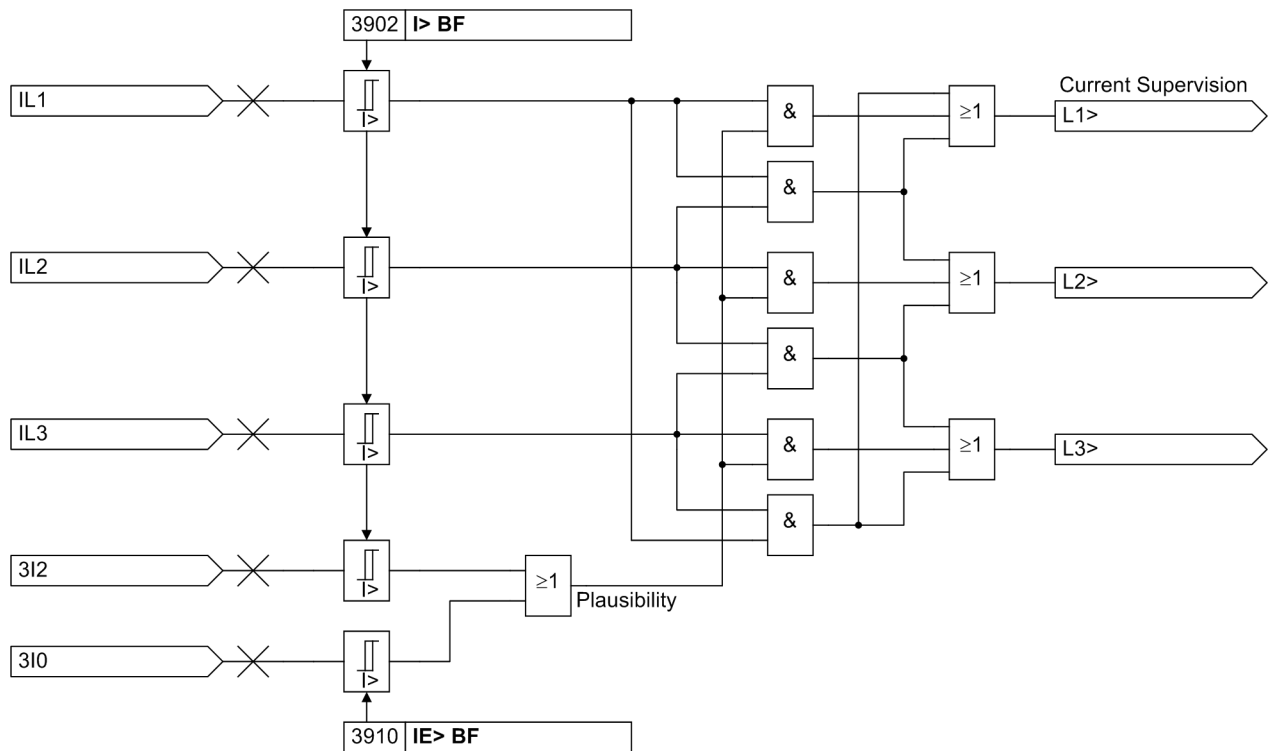
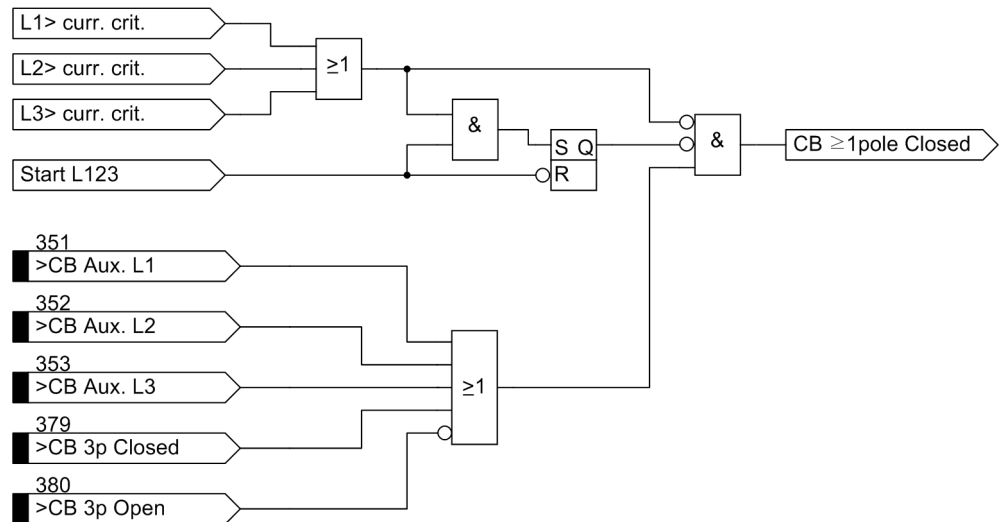
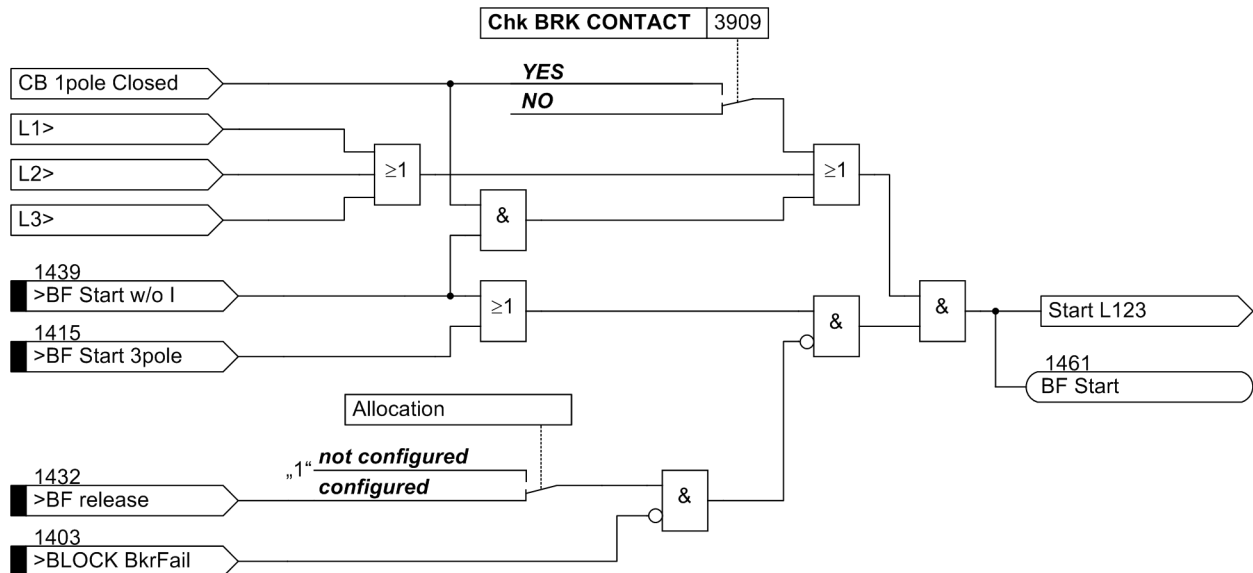
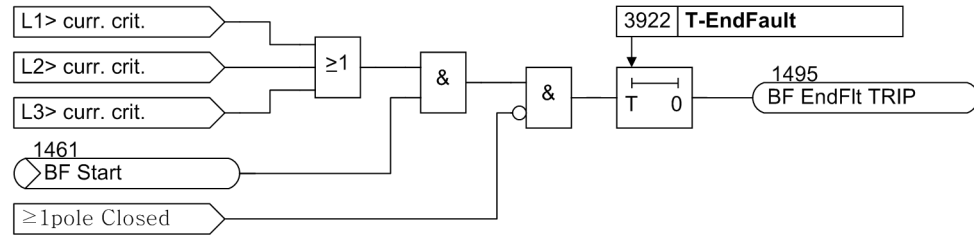

Figure 2-35 Current flow monitoring with plausibility currents $3 \cdot I_0$ and $3 \cdot I_2$
Figure 2-37 Creation of signal "CB ≥ any pole closed"
Figure 2-38 Breaker failure protection with common phase initiation
Figure 2-47 Operation scheme of end fault protection
The currents are monitored and compared with the set threshold. Besides the three phase currents, two further current detectors are provided in order to allow a plausibility check (see Figure 2-35).
It is possible to disable the auxiliary contact criterion. If you set the parameter switch **Chk BRK CONTACT** (Figure 2-38 top) to **NO**, the breaker failure protection can only be started when current flow is detected. The position of the auxiliary contacts is then not evaluated even if the auxiliary contacts are connected to the device.
On the other hand, current flow is not a reliable criterion for proper operation of the circuit breaker for faults which do not cause detectable current flow (e.g. Buchholz protection). Information regarding the position of the circuit breaker auxiliary contacts is required in these cases to check the correct response of the circuit breaker. For this purpose, the binary input „>BF Start w/o I“ No. 1439 is provided (Figure 2-38 left). This input initiates the breaker failure protection even if no current flow is detected.
Figure 2-38 shows the operating principle. When the trip signal appears from a protective function and at least one current flow criterion (according to Figure 2-35) is present, the breaker failure protection is initiated and the corresponding delay time(s) is (are) started.
If the current criterion is not fulfilled for any of the phases, the position of the circuit breaker auxiliary contact(s) is queried provided that this is available according to Figure 2-37. If the circuit breaker poles have individual auxiliary contacts, the series connection of the three normally closed (NC) auxiliary contacts is used. The circuit breaker has operated correctly after a three-pole trip command only when none of the phases carries current or when all three NC auxiliary contacts have closed.
Figure 2-37 illustrates how the internal signal "CB pole „L1 closed“ is created (see Figure 2-38 left) if at least one circuit breaker pole is closed.
The end fault is recognized when the current continues flowing although the circuit breaker auxiliary contacts indicate that the breaker is open. An additional criterion is the presence of any breaker failure protection initiate signal. Figure 2-47 illustrates the functional principle. If the breaker failure protection is initiated and current flow is detected (current criteria „L*“ according to Figure 2-35), but no circuit breaker pole is closed (auxiliary contact criterion „any pole closed“), then the timer **T-EndFault** is started. At the end of this time an intertrip signal is transmitted to the opposite end(s) of the protected object.
Additionally, the current criteria (from Figure 2-35) are processed. Pole discrepancy can only be detected when current is not flowing through all three poles (<3), i.e. through only one or two poles. When current is flowing through all three poles, all three poles must be closed even if the breaker auxiliary contacts indicate a different status.